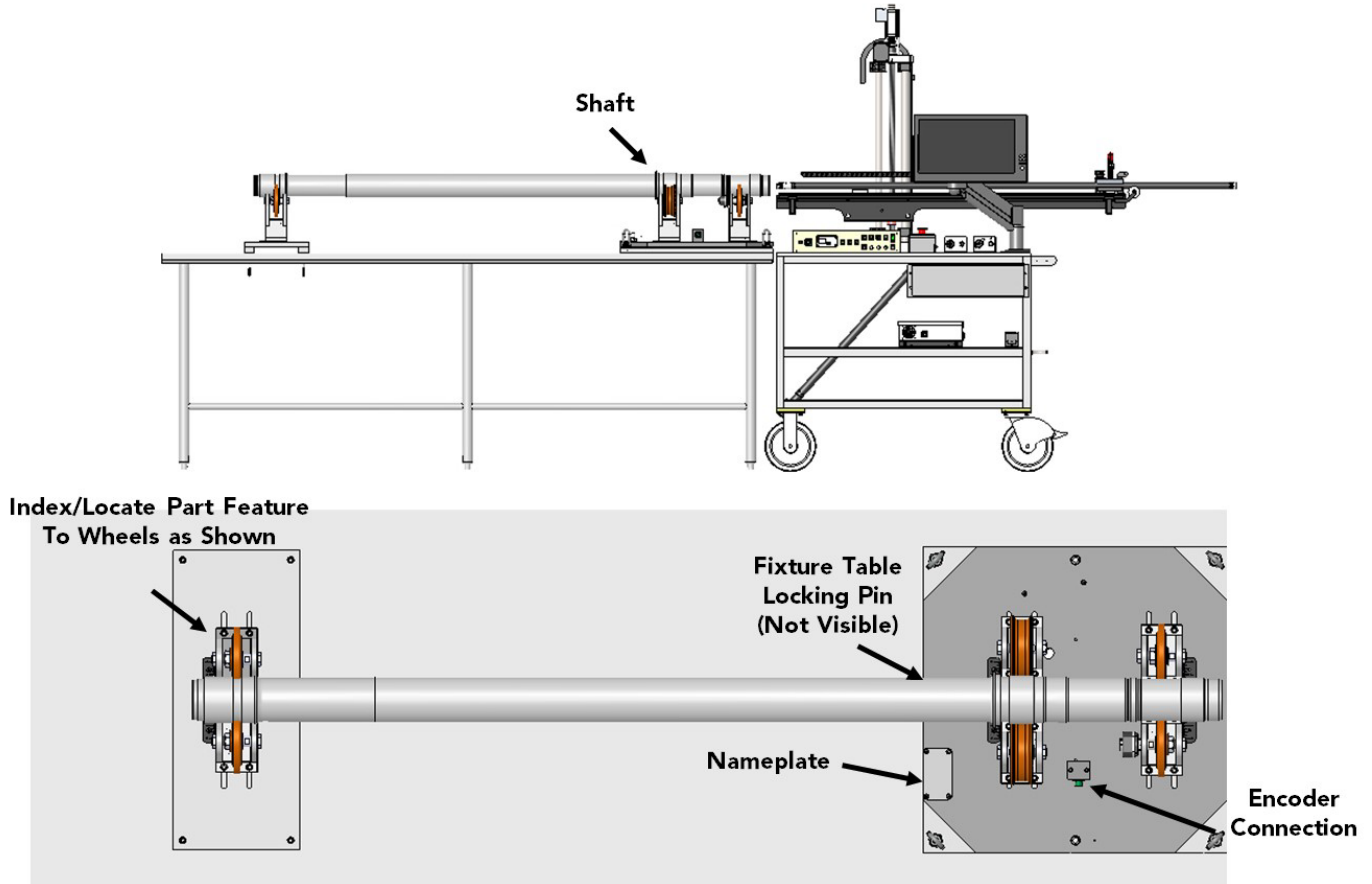
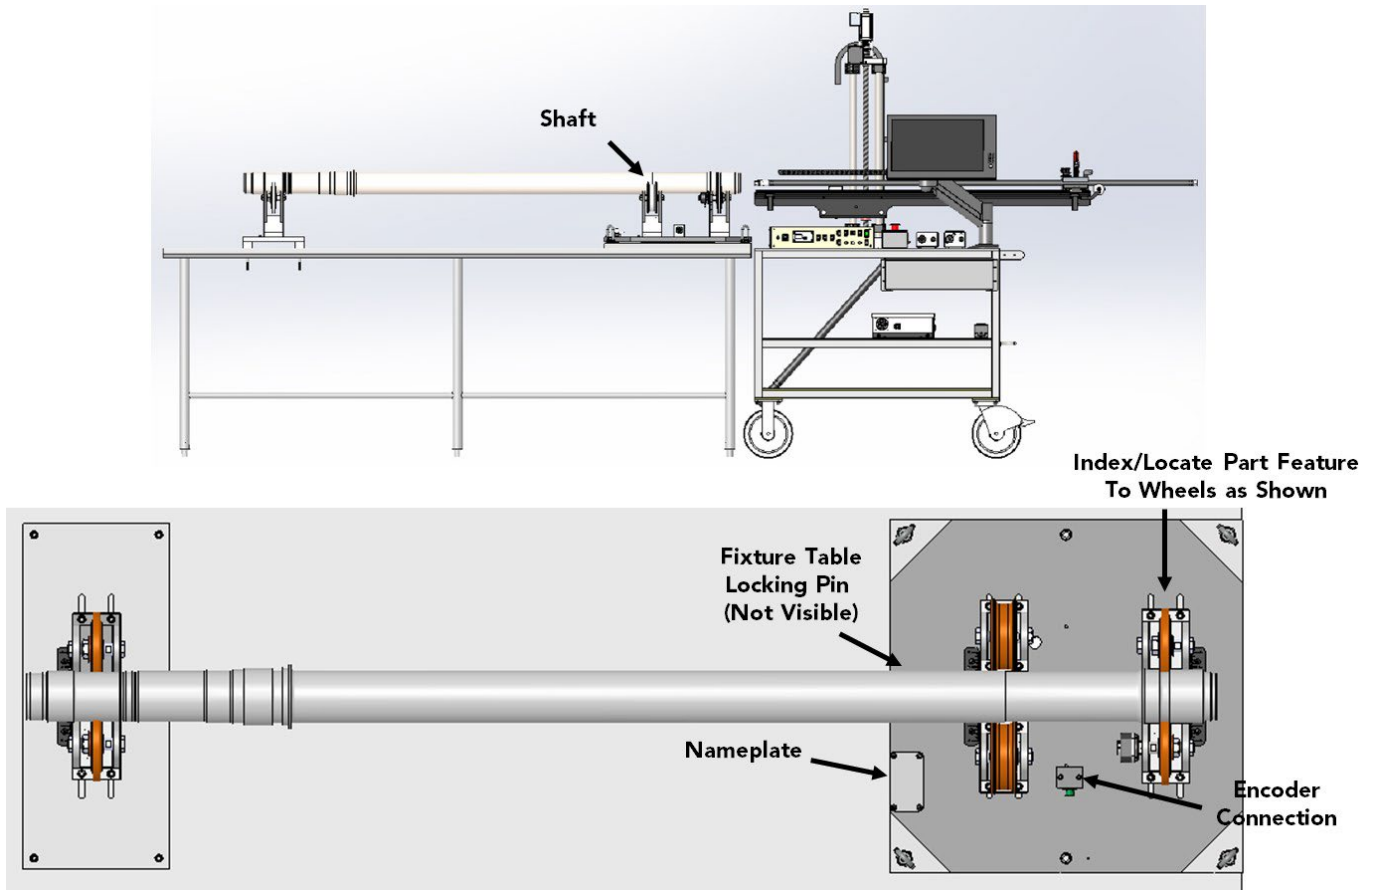

Figure 20 Shaft Setup One
Figure 21 Shaft Setup Two
- 4) Rotate fixture, if needed see Figure 20 or Shaft Setup Two Figure 21